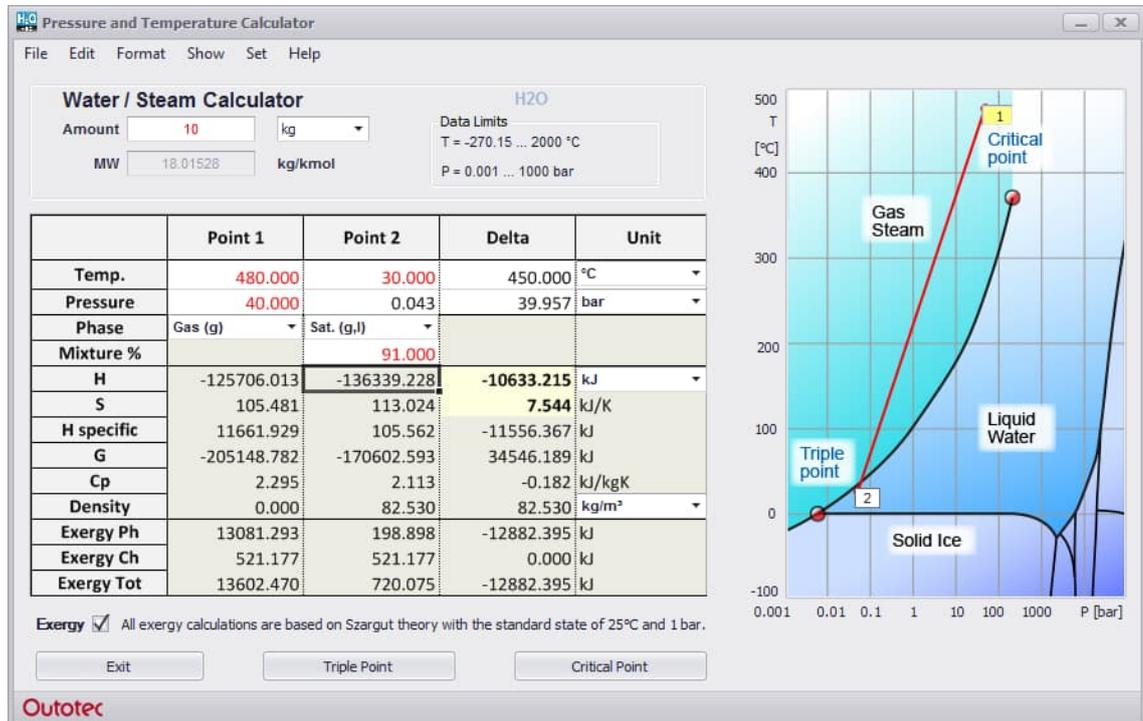

Fig. 4. Steam turbine process.
A simple steam turbine process is shown in **Fig. 4**. The calculation shows that the net enthalpy for a mass flow of 10 kg/s is -10633 kW and thus exothermic, i.e. the enthalpy is released in the form of work on the shaft. The entropy generation is 7.5 kW/°C and the process is therefore not isentropic. By decreasing the Mixture % (in this case ~ 81.7 %), the process may be compared with the ideal isentropic process for which there is no entropy generation. The enthalpy released in the isentropic process is -12903 kW and the isentropic efficiency is therefore, according to Equation (2), $\eta_{s,t} = -10633$ kW / -12903 kW = 0.82 .